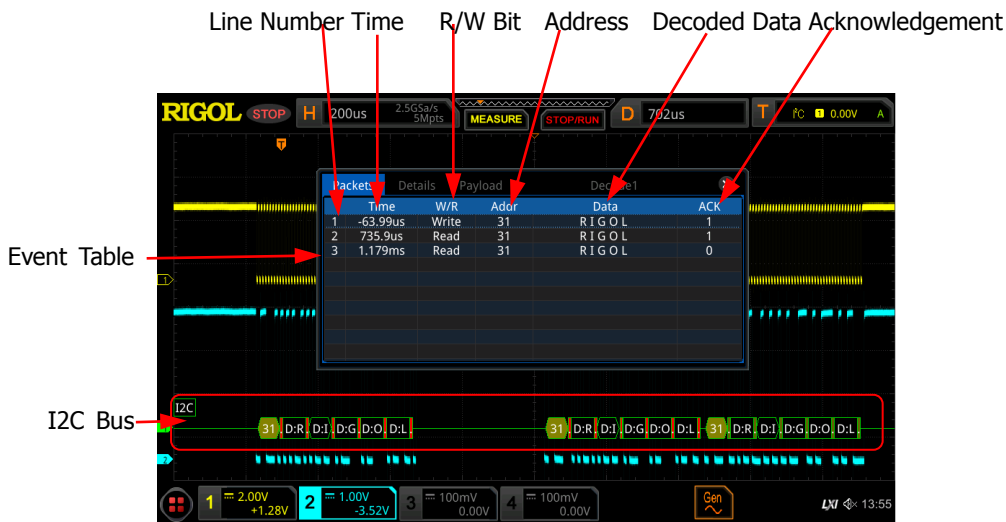

Figure 11-6 I2C Decoding Event Table
- Open or close the event table: Click **Event Table** continuously to enable or disable the event table. When you enable the event table, the following figure is displayed, as shown in Figure 11-6. Click on the icon  at the upper-right corner of the table to close the event table. Besides, when the operating status is "STOP", you can select a specified line and view the corresponding decoding information.